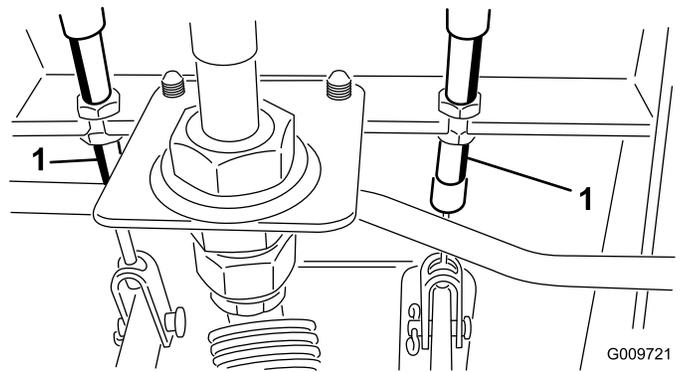

Figure 87
- A. Loosen the front nut on the threaded end of the brake cable (Figure 87).